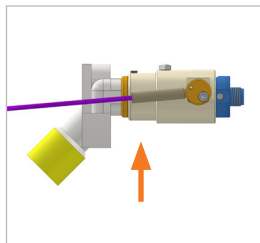

Figure 9
- ▶ Flip the actuator (item 1) upwards (*Figure 9*). This will disconnect the cylinder valve and allow the connector to be removed straight backwards.